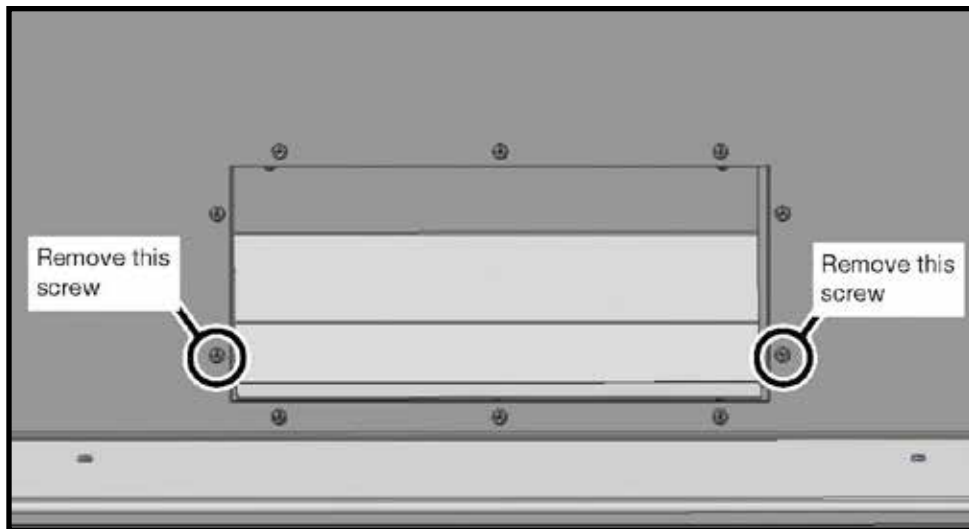

Figure 10: Air channel.
8. Mount the lower rear panel against the rear wall of the firebox and affix to the wall using the two screws previously removed from the air channel (Figure 10).